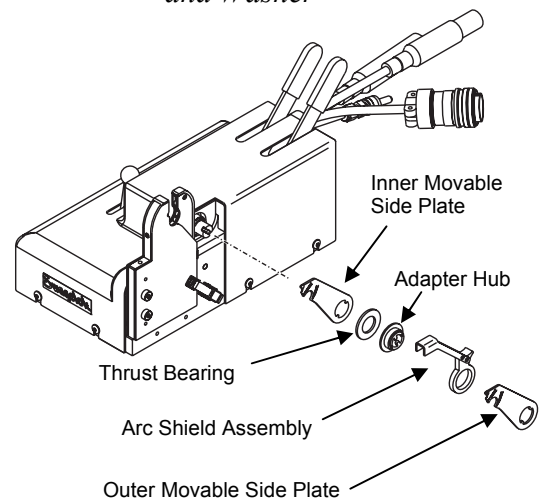

Figure 33 *Removing the Movable Side Plate Assembly*
4. Remove outer movable side plate, arc shield assembly, adapter hub, thrust bearing, and inner movable side plate. See Figure 33.